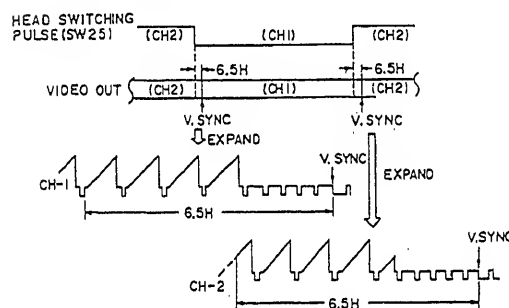

Fig. 4-102
- 1) Head Switching Point Adjustment (Figs. 4-102, 4-151)